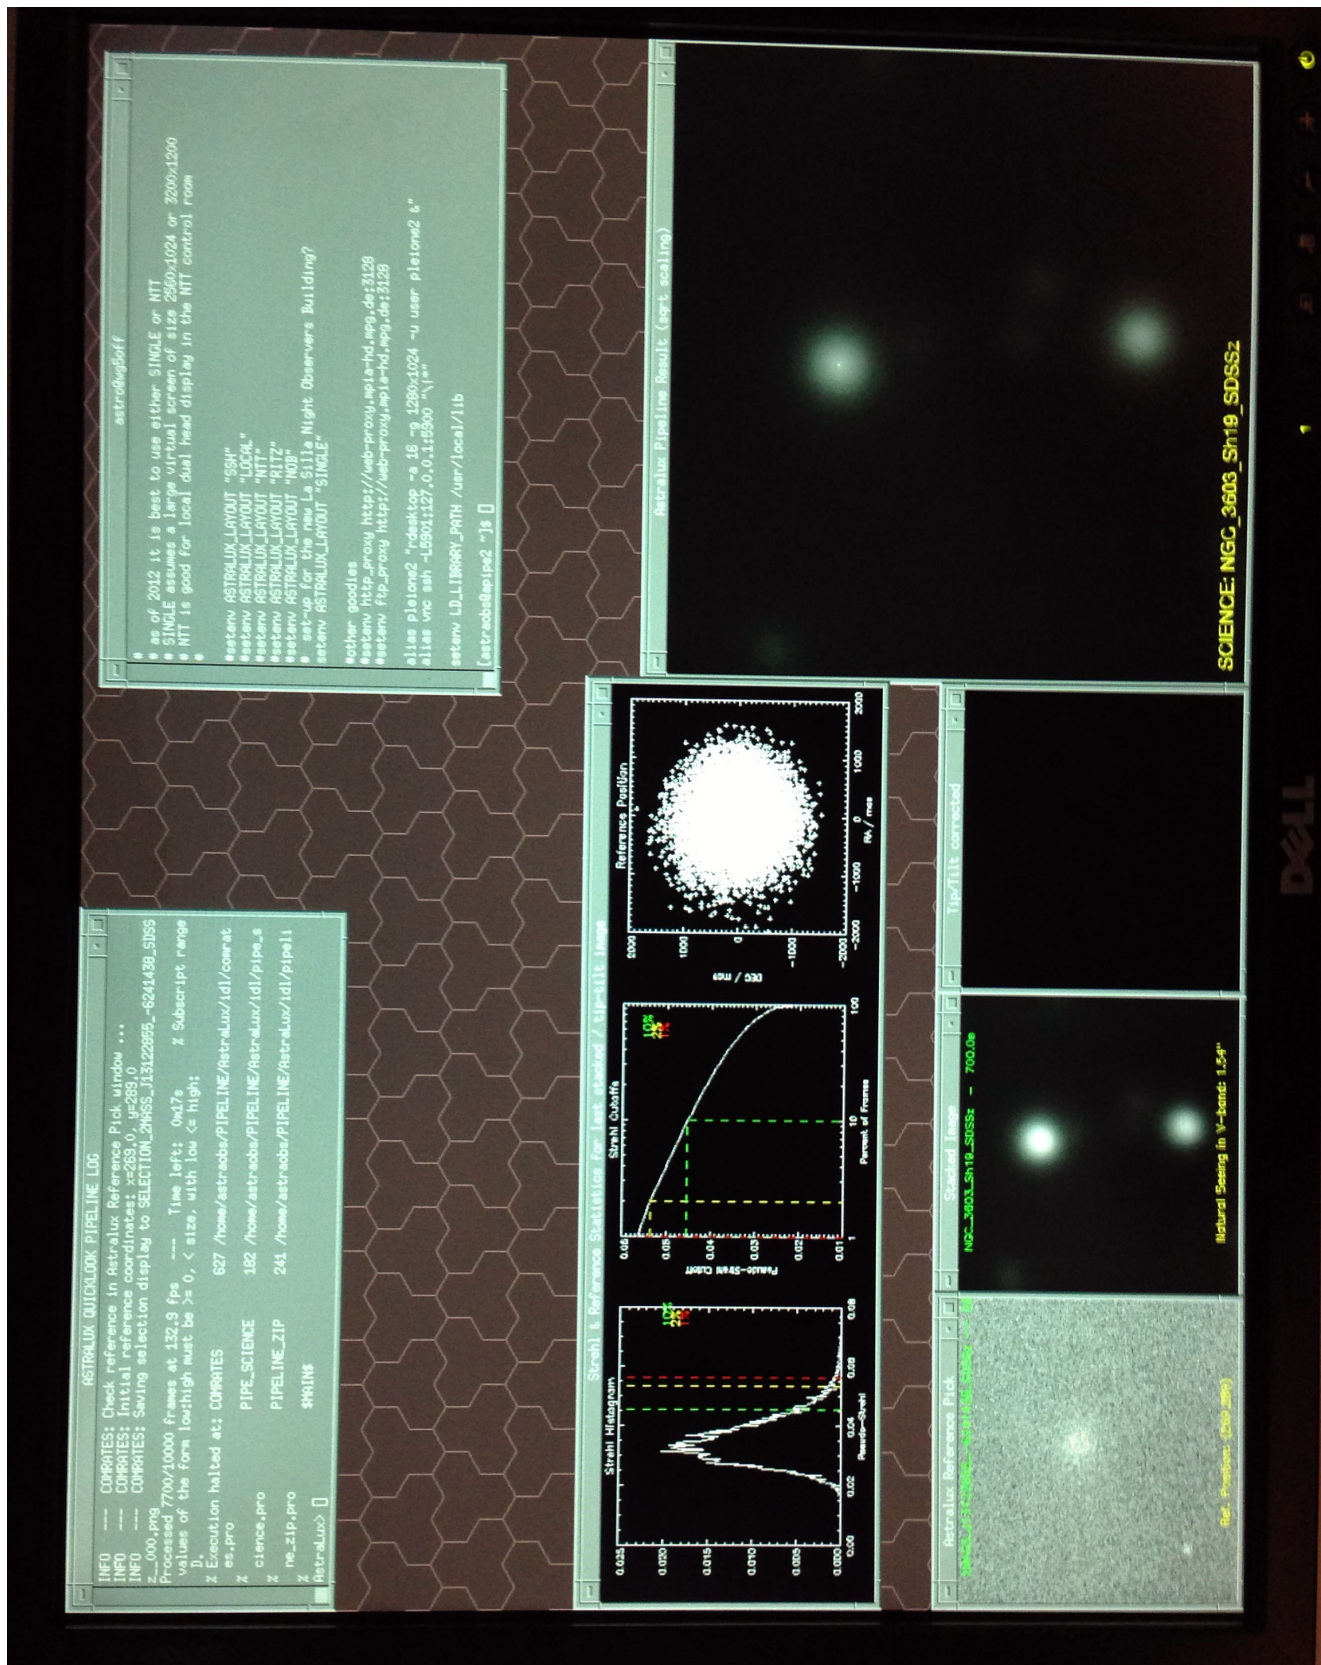
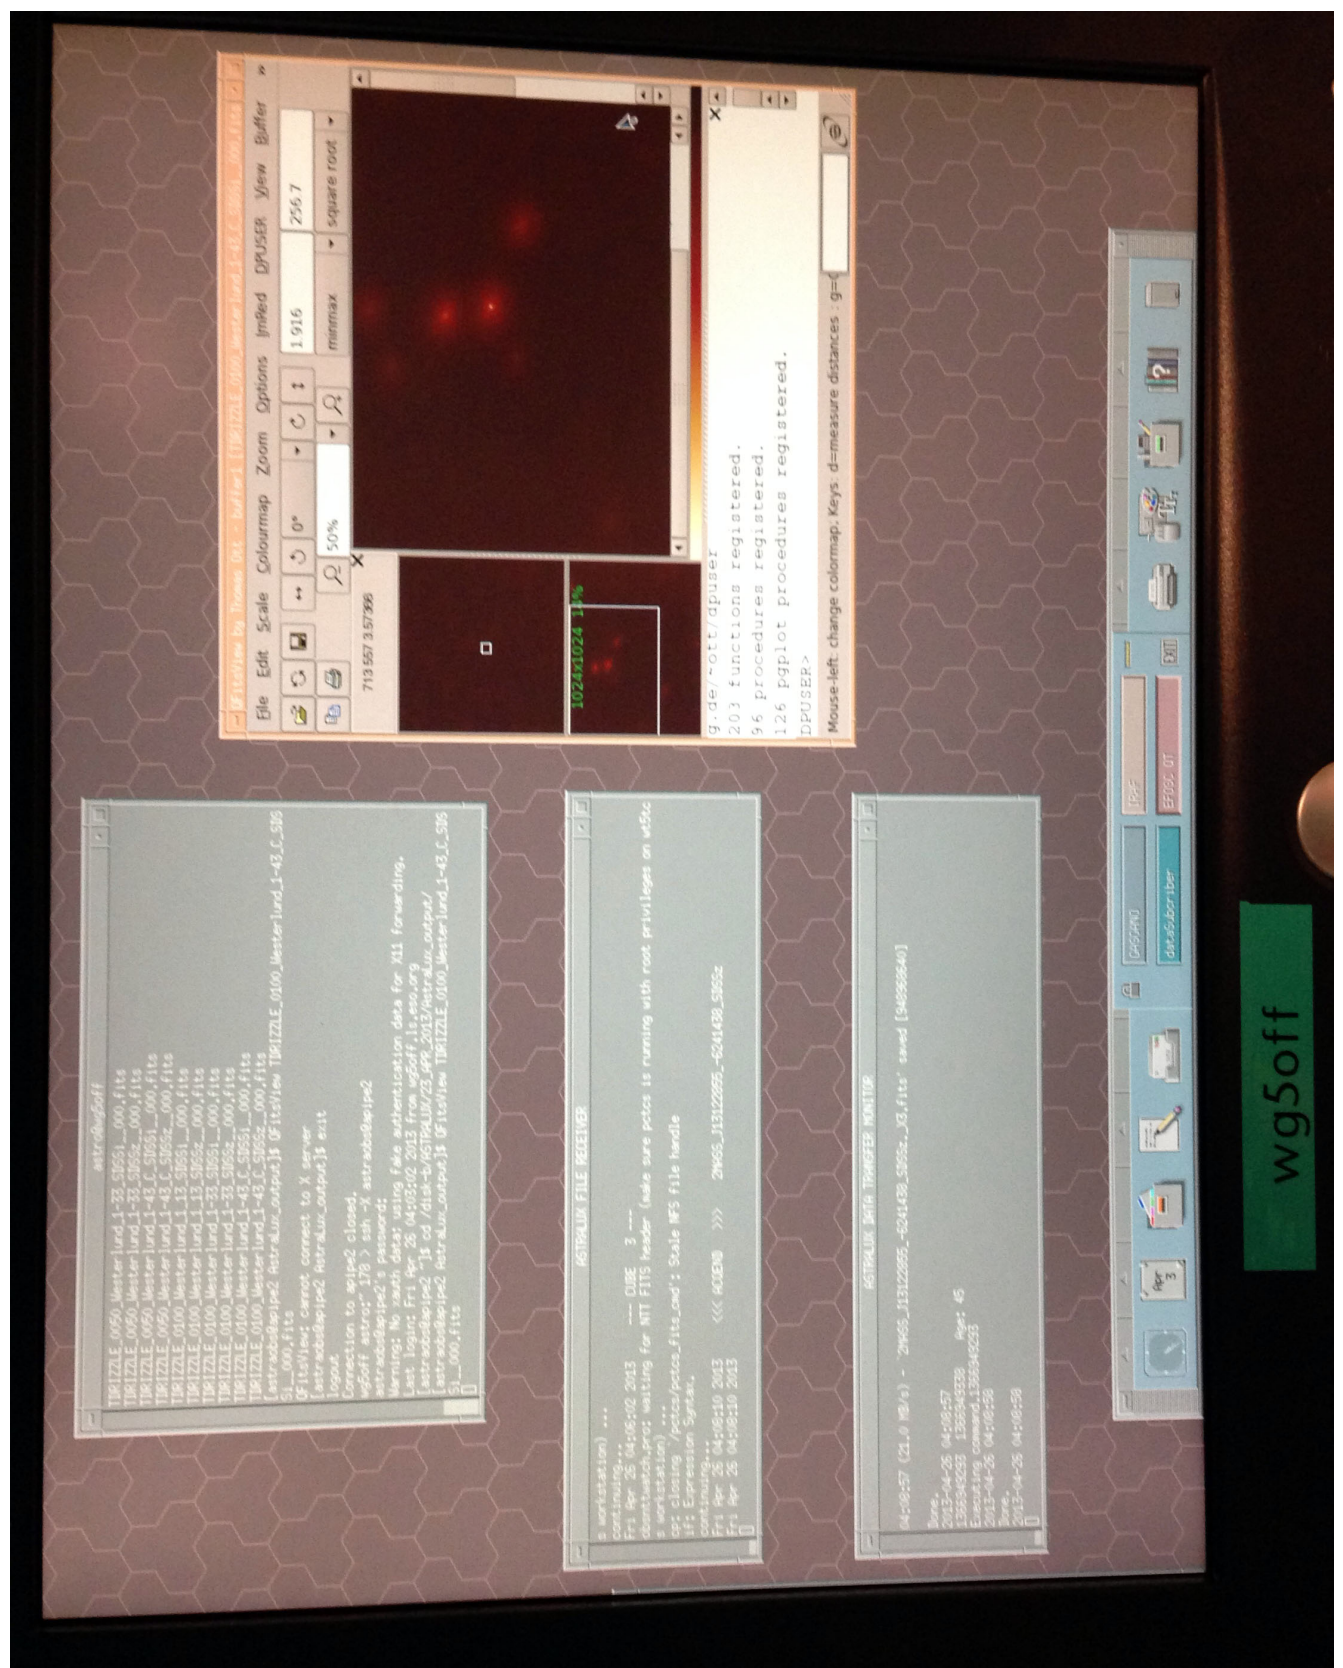
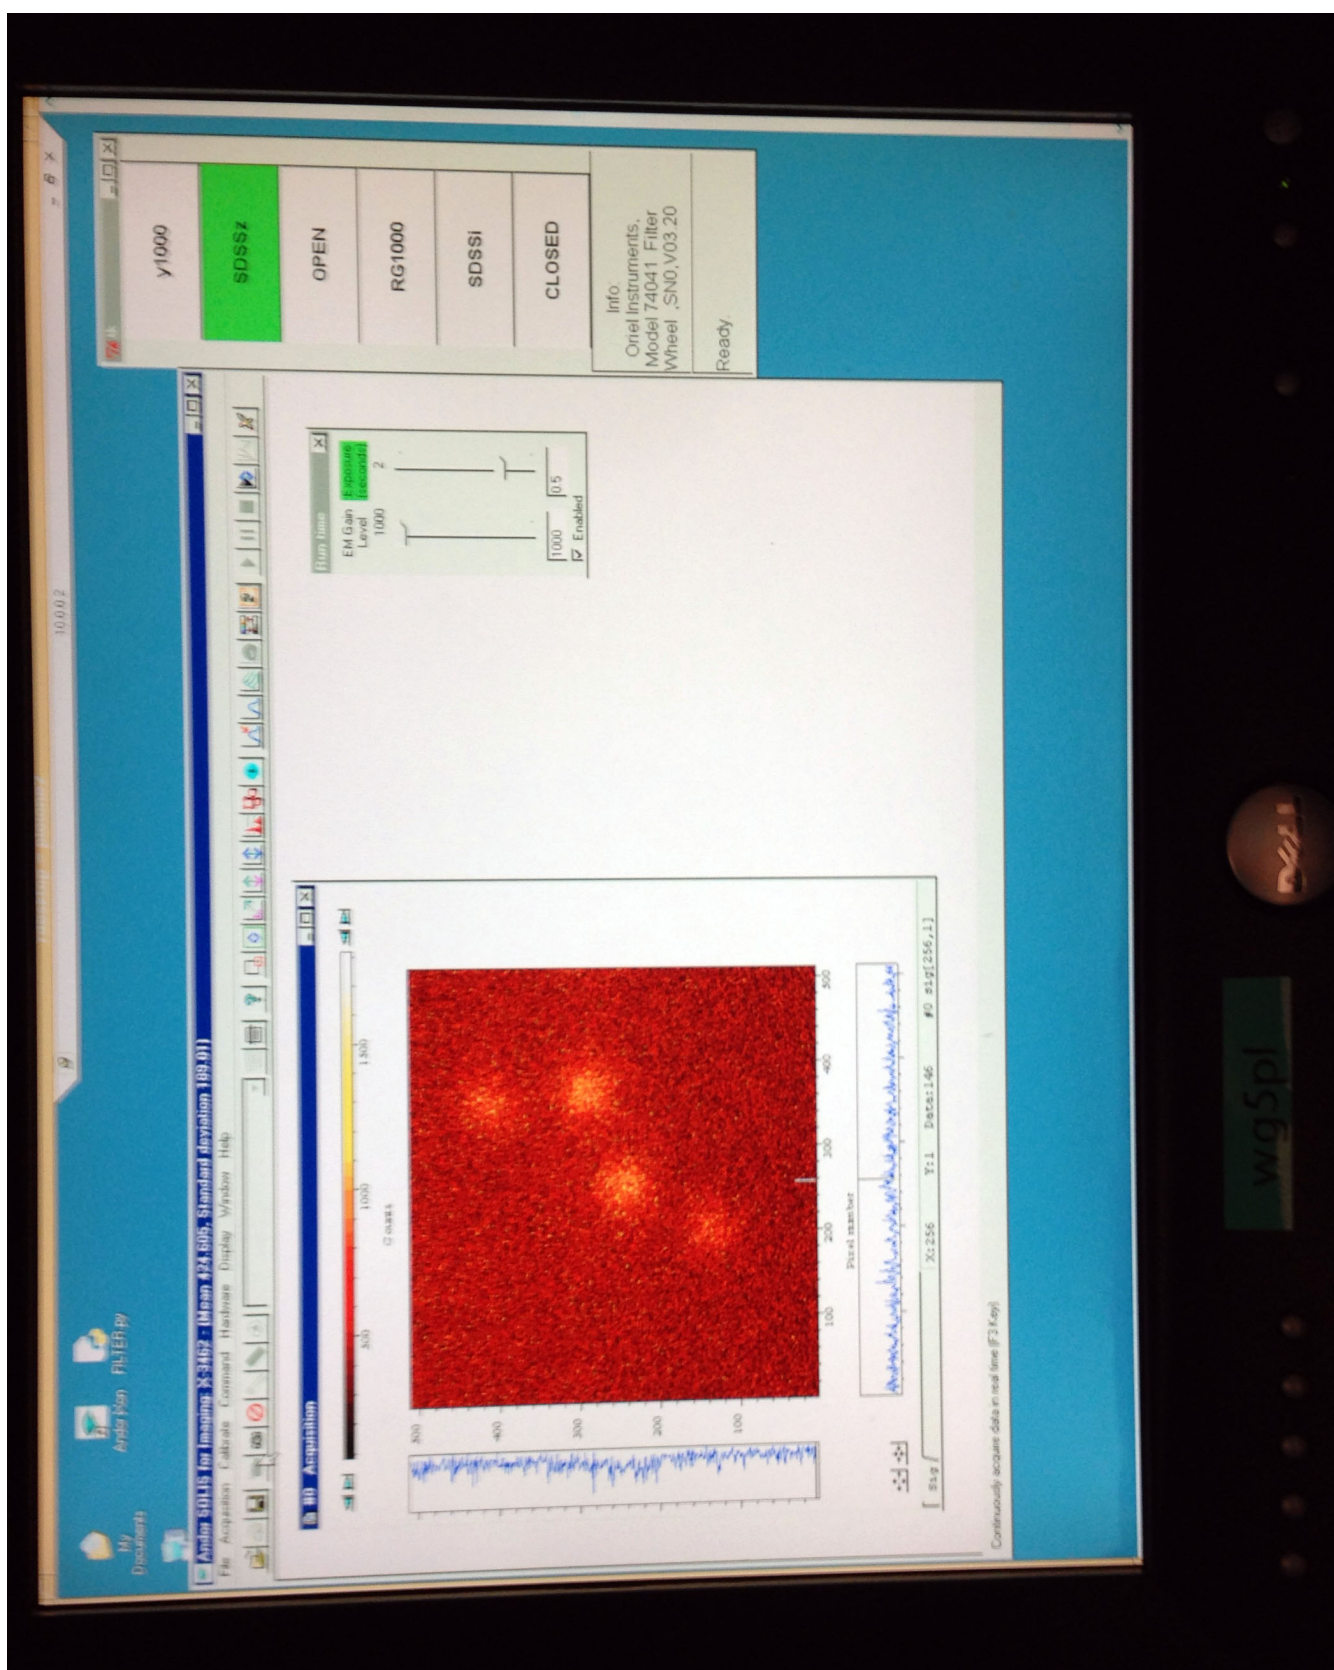

Figure 14. AstraLux Sur pipeline screen layout on the left screen of wg5off in the NOB.
Figure 15. AstraLux Sur pipeline screen layout on the right screen of wg5off in the NOB.
Figure 16. AstraLux Sur camera screen layout on wg5pl in the NOB.
- If you did all as told, your screens should now look approximately like in Fig. 14, Fig. 15, and Fig. 16.